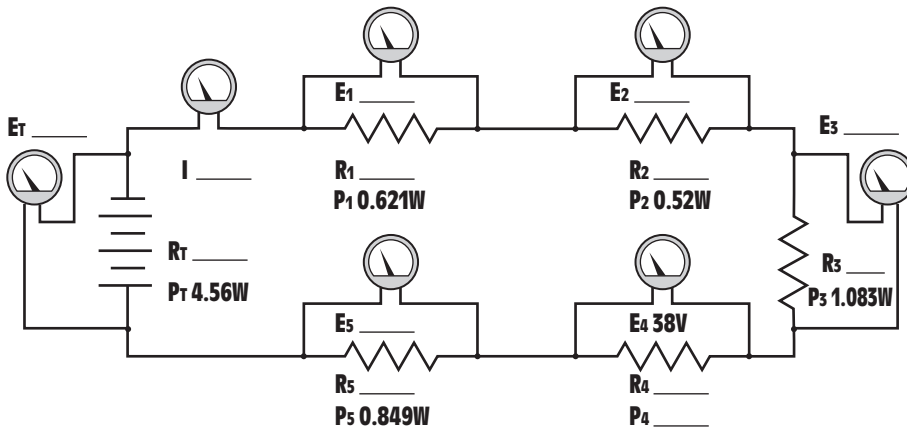

Figure 5-26 Practice Problem 1.
1. Find the missing values in the circuit shown in *Figure 5-26*.